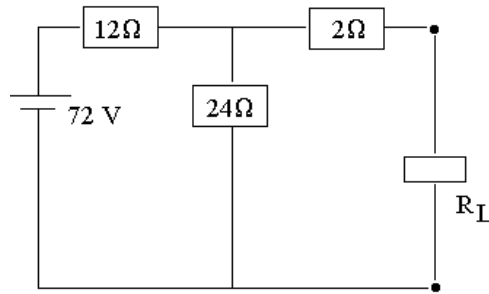

Fig.1
Q.4 For the circuit shown in Fig.1, find the value of R_L for maximum power transfer. What will be the value of maximum power? **(8)**